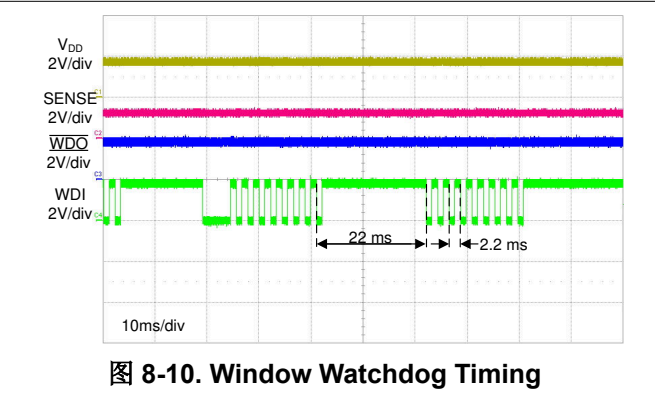

图 8-10. Window Watchdog Timing
In this application, the window watchdog timing options are based on the PWM signal that is provided to the TPS3850-Q1. A window watchdog setting must be chosen such that the falling edge of the PWM signal always falls within the window. A nominal window must be designed with  $t_{WDL(max)}$  less than 5 ms and  $t_{WDU(min)}$  greater than 5 ms. There are several options that satisfy this window option. An external capacitor can be placed on the CWD pin and calculated to have a sufficient window. Another option is to use one of the factory-programmed timing options. An additional advantage of choosing one of the factory-programmed options is the ability to reduce the number of components required, thus reducing overall BOM cost. Leaving the CWD pin unconnected (NC) with  $SET0 = 0$  and  $SET1 = 1$  produces a  $t_{WDL(max)}$  of 2.22 ms and a  $t_{WDU(min)}$  of 23.375 ms; see 图 8-10.